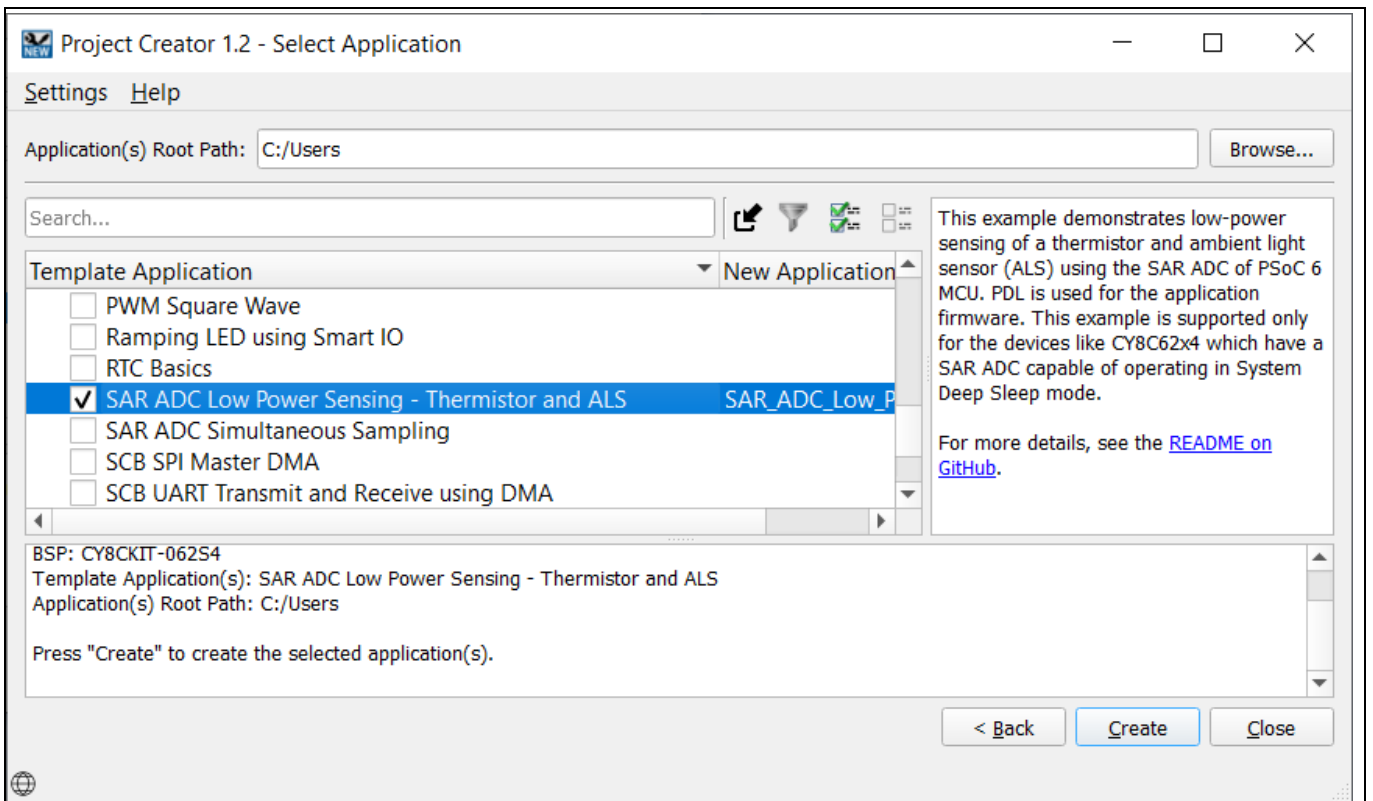

Figure 9 CY8CKIT-062S4 application selection
- c) Select the application and click **Create**, as shown in **Figure 9**.